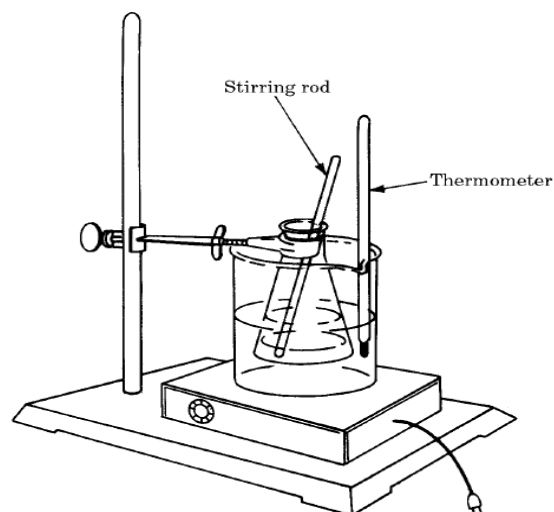

Figure 10.1: Precipitation of Casein
3. Immerse the Erlenmeyer flask in the water bath you prepared in step 1 and Stir the solution constantly with a stirring rod. See Fig. 10.1.